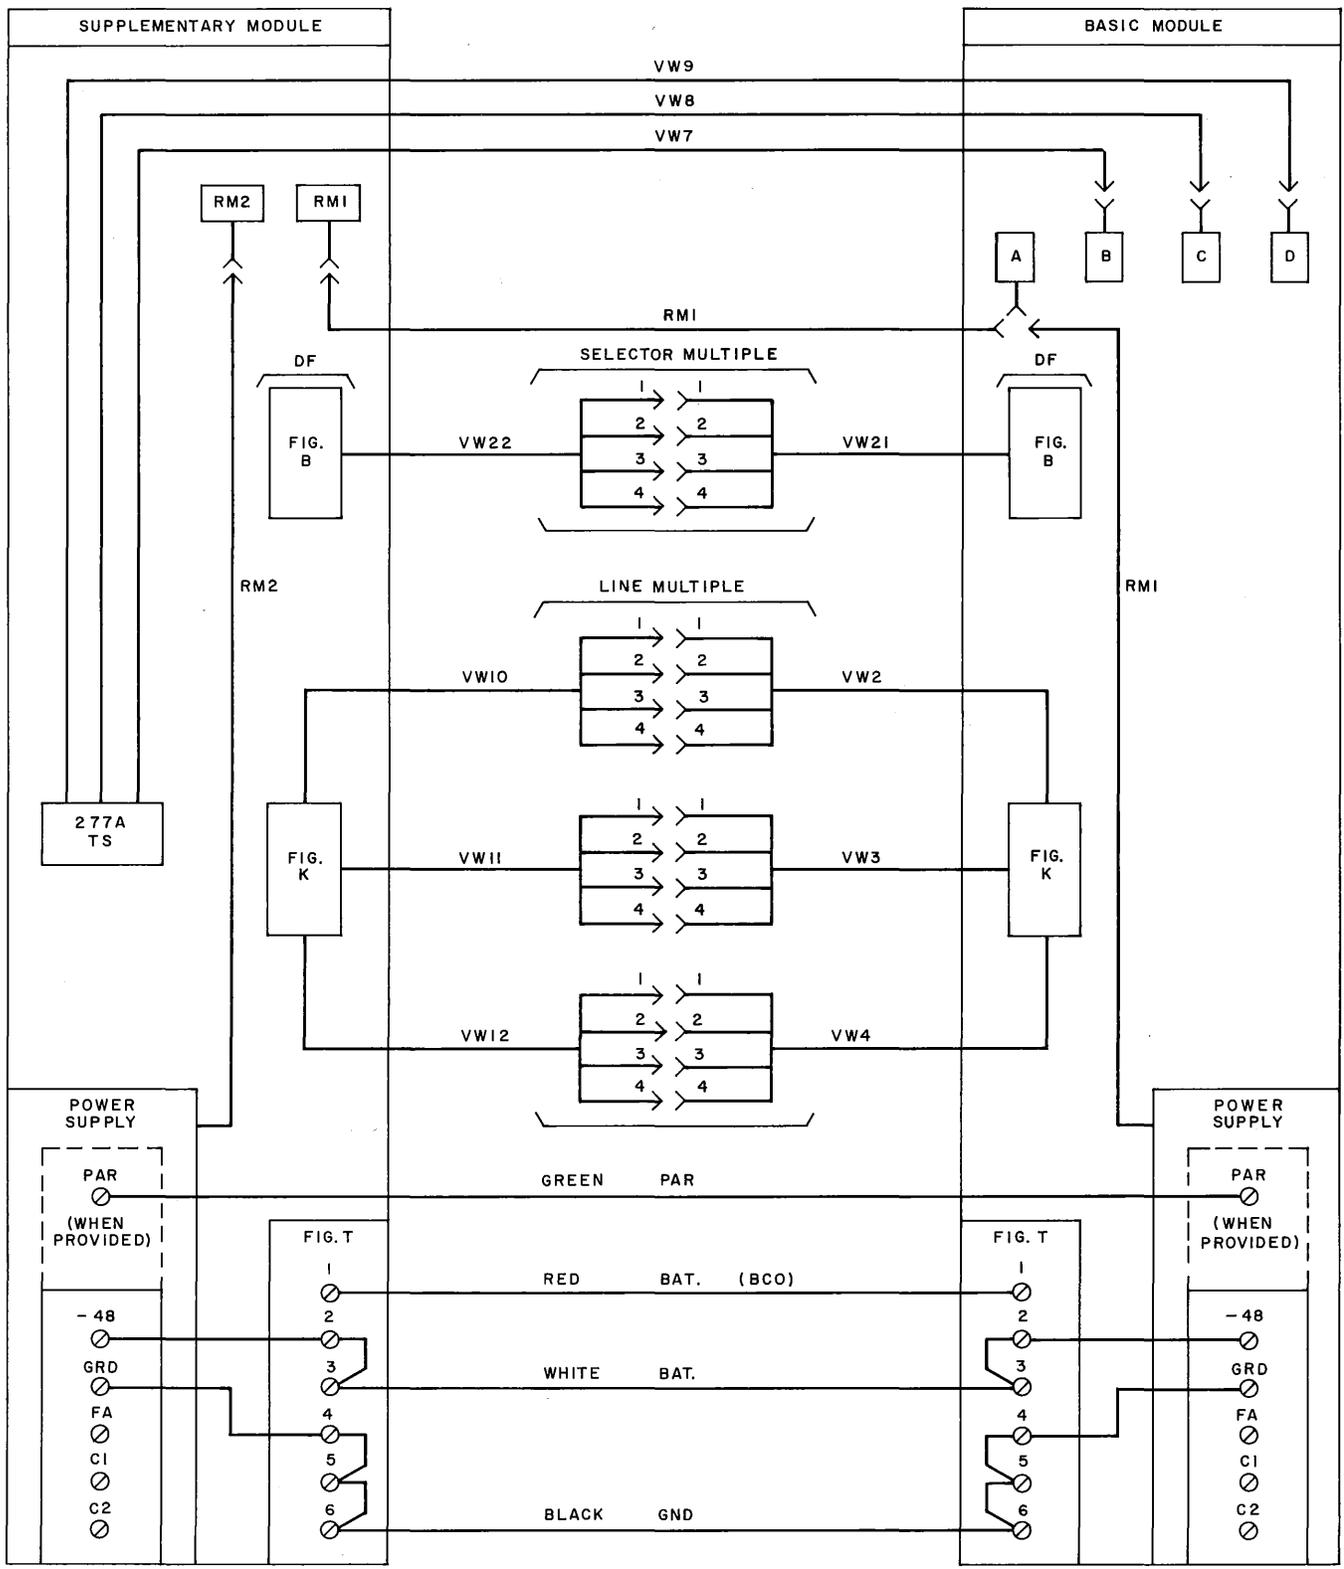

Fig. 1 — Plug-in Cables and Power Leads for Basic and Supplementary Modules — Connection Schematic
2.01 Table A together with Figures 1 and 2 provide a sequence for placing and connecting the various cables which may be required for connecting the basic and supplementary modules of the 701PK PBX system.